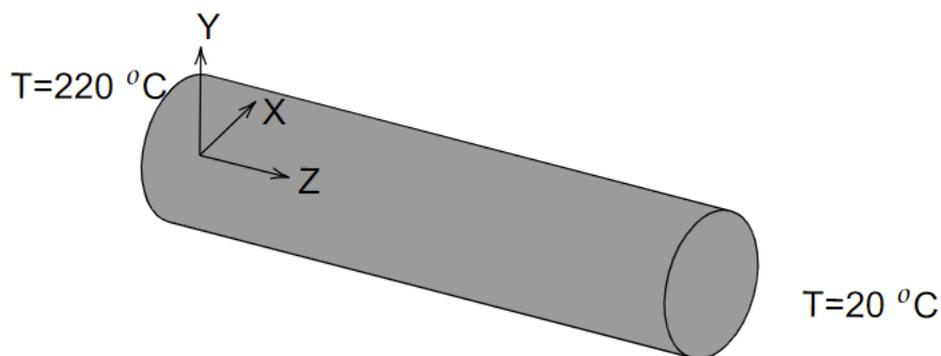

Figure Q1: Cylindrical bar with temperature boundary conditions.
- b) An aluminium rod of length $L = 200$ mm and diameter 10 mm (see **Figure Q1**) is exposed to temperatures of $T = 220$ °C at $z = 0$ mm and $T = 20$ °C at $z = 200$ mm. Assuming that the thermal conductivity of Aluminium is 200 W/(m.K)